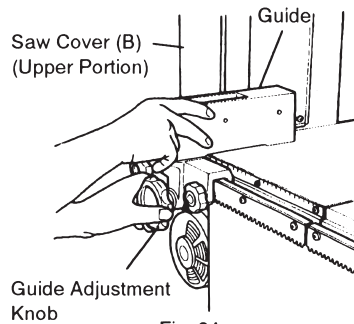

Fig. 24
(1) If the guide interferes with the cutting operation, remove it as illustrated in Figs. 24 and 25.
(2) Loosen the guide plate fastening wing bolt, and adjust the guide plate to the desired cutting angle.
(3) By fitting the angle cutting ruler into the provided groove on the table and sliding the ruler along the groove, efficient and accurate angle cutting can be obtained.